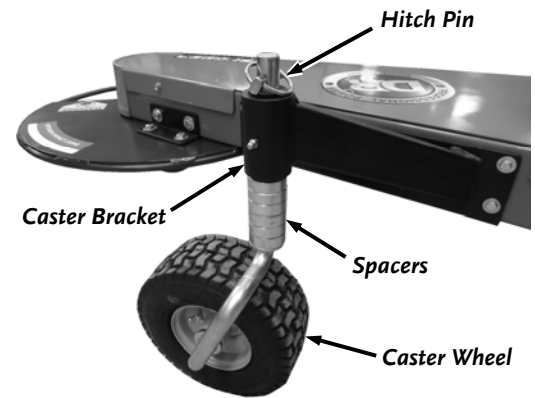

Figure 10
Setting the cutting height of the Cords is done by adjusting the Cord Head location and/or by rearranging the Spacers of the Caster Wheel Assembly. The Spacers are 1/2" thick to provide height adjustments in 1/2-inch increments. Changing the Cord Head location from below the molded Spacer to above it will change the height by 1-1/2" so the cutting height with the Cord Head at its lowest setting would be 3" with all Spacers on top of the Caster Bracket, to approximately 6" when all Spacers are below the Caster Bracket (**Figure 10**). The range with the Cord Head at its highest setting would be 4-1/2" with all Spacers on top of the Caster Bracket, to approximately 7-1/2" when all Spacers are below the Caster Bracket. The Trimmer must always be set level by adjusting the Tow Hitch after Caster Wheel Spacer locations are changed.
1. Remove the Hitch Pin and remove the Caster Assembly from the Bracket (**Figure 10**).